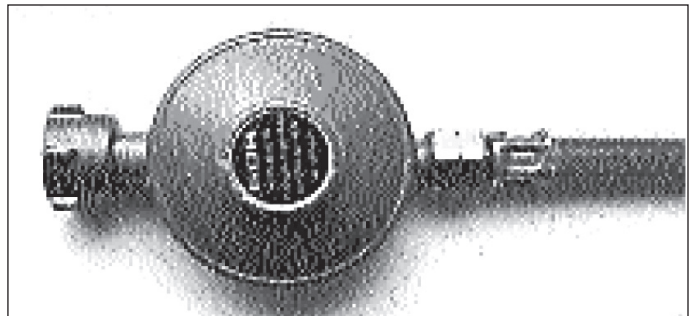

Figure 5-18.
4. Does the pressure regulator function properly? (Over or under pressure listed on the data plate) (See Figure 5-18 & 5-19)